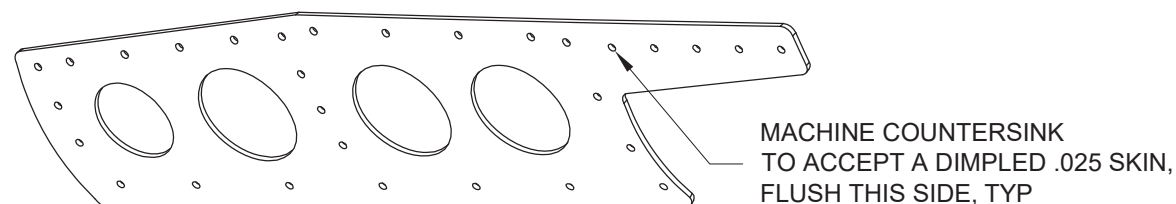

FIGURE 4: FORWARD CANOPY RAIL
Step 4: Machine countersink every hole in the C-01406-L Forward Canopy Rail as shown in Figure 4.